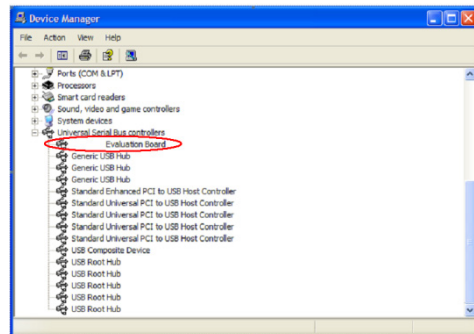

Figure 10. Verify Driver Installation
5. To verify that the USB driver is installed properly, click **Start**. Then select **Control Panel > System** and open the **Device Manager** (see Figure 10).